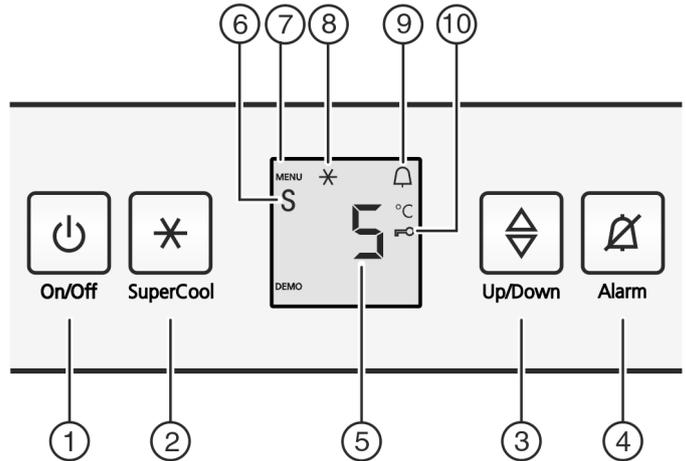

Fig. 2
- ▶ Press the On/Off button Fig. 2 (1).
- ▶ Activate setting mode: Press the SuperCool button *Fig. 2 (2)* for around 5 seconds.
- ▷ The menu symbol *Fig. 2 (7)* shines.
- ▶ Use the Settings button *Fig. 2 (3)* to select **c**.
- ▶ Briefly press the SuperCool button *Fig. 2 (2)* to confirm.
- ▶ to activate the child lock, briefly press the SuperCool button *Fig. 2 (2)*.
- ▷ The child lock symbol *Fig. 2 (10)* shines. **c** flashes in the display.
- ▶ to deactivate the child lock, briefly press the SuperCool button *Fig. 2 (2)*.
- ▷ The child lock symbol *Fig. 2 (10)* goes out. **c** flashes in the display.
- ▶ To deactivate the set-up mode: press On/Off button *Fig. 2 (1)*.
- ▶ Press alarm button *Fig. 2 (4)*.
- ▷ The Menu symbol *Fig. 2 (7)* lights up.
- ▶ To call up the Sabbath Mode function: Briefly press the SuperCool button *Fig. 2 (2)*.
- ▶ To switch on Sabbath Mode, briefly press the SuperCool button *Fig. 2 (2)*.
- ▶ To switch off Sabbath Mode, briefly press the SuperCool button *Fig. 2 (2)*.
- ▶ Deactivate setting mode: Press the On/Off button *Fig. 2 (1)*.
- ▷ The temperature display shows the Sabbath Mode symbol *Fig. 2 (6)* as long as Sabbath Mode is on.
- ▶ Call up temperature function: press the setting button *Fig. 2 (3)*.
- ▶ Change the temperature in 1 °C steps: Press the setting button *Fig. 2 (3)* until the required temperature is indicated in the temperature display.